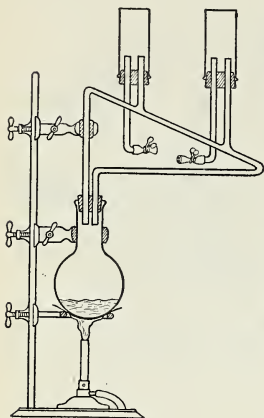

Fig. 204.
*To make a model of a steam-heating plant.* Arrange apparatus as in Figure 204. Draw a diagram of your arrangement and label the parts to correspond with those of a steam-heating plant as in diagram.